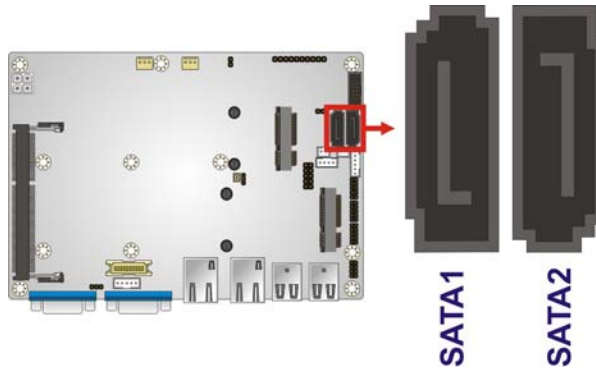

Figure 4-15: SATA Drive Connector Locations
- CN Location: See **Figure 4-15**